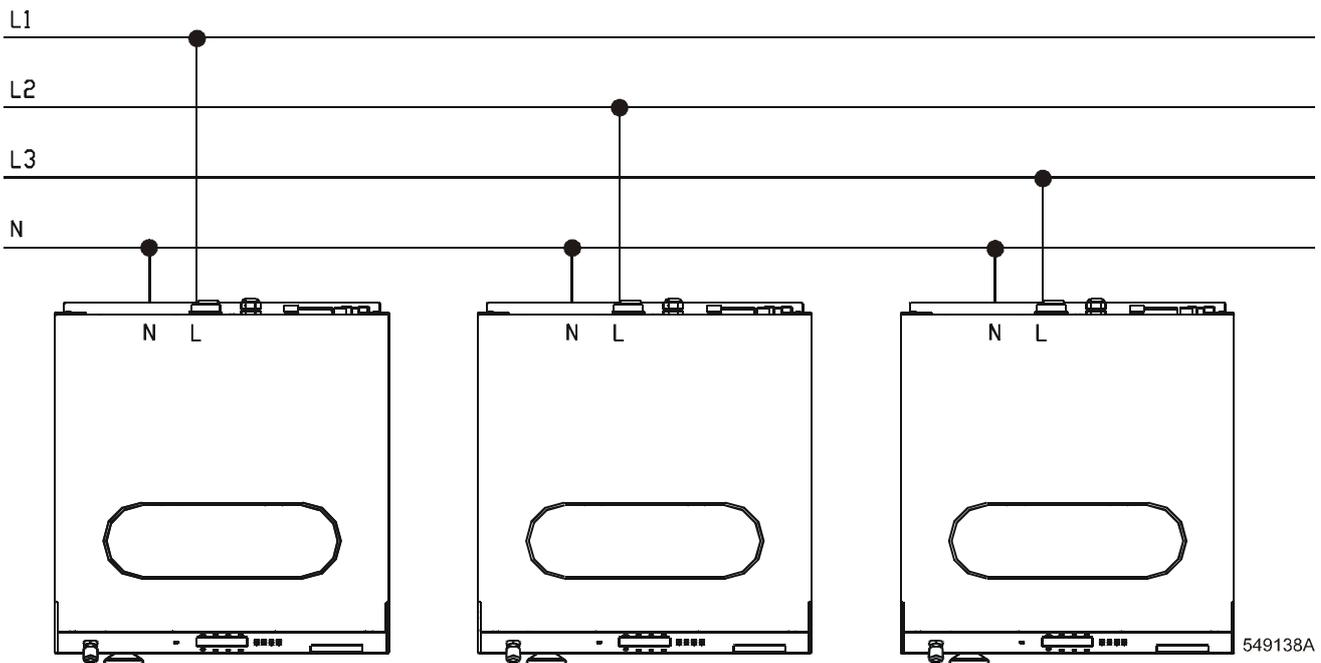

Figure 31 – Multiple machines in line
- When multiple single phase machines are connected to the same electrical network, it is necessary to connect the machines according to figure 31. The phase of the frequency control and motor which is connected to the terminal inside the machine, has to be connected alternatively for the first machine with the first phase L1 of the network, the second machine with the second phase L2, ... . The fourth machine must again be connected to the first phase L1. This assures a better load of the electrical network.